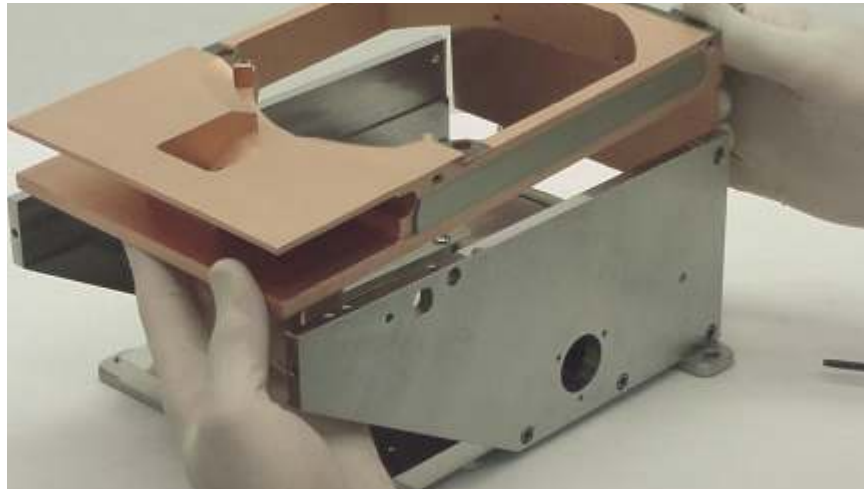

Figure 5-9. Removing the coil housing
- Step 20. You should now be able to lift the coil housing free of the pole pieces, as shown in Figure 5-9. If not, further loosen the bottom row of screws that secure one of the pole pieces to the source base plate.